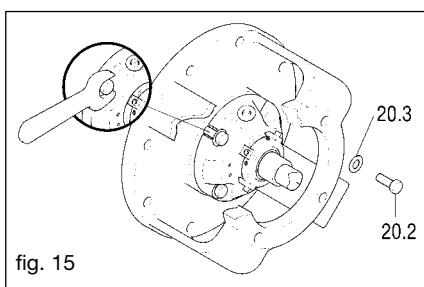

fig. 15
- Tighten the fixing screws (20.2) carefully (fig. 15) so as to avoid strain on the stationary seat of the seal